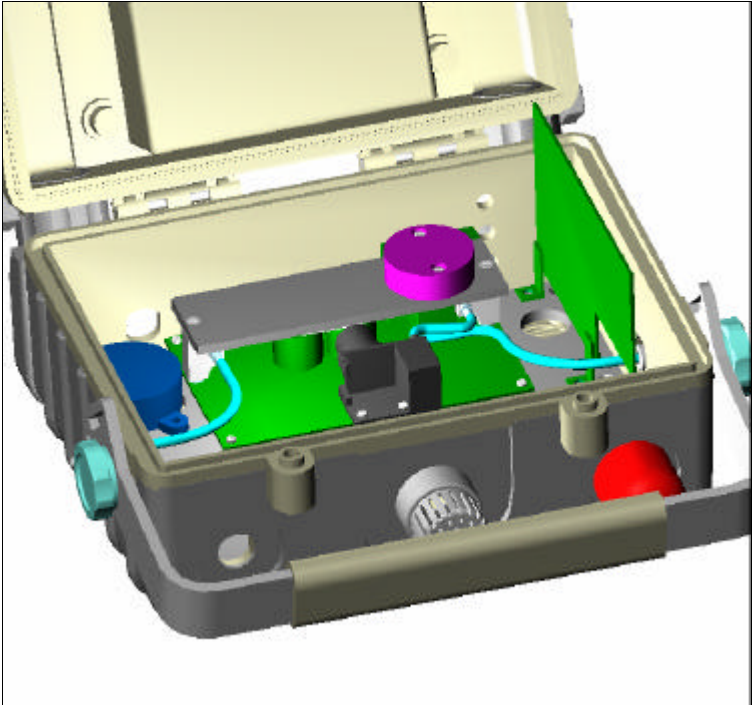

Figure 6-1 Internal Structure of IAQRAE
3. Refer to Figure 6-1, open the monitor housing by unscrewing the two captured hex screws from the top of the monitor case.
4. Refer to Figures 6-1 and 6-2, carefully unscrew the two No.2 screws that hold down the gas piping plate to the PCB and sensors. Remove the gas piping plate.
2. Refer to Figures 6-1 and 6-2. Remove the two hex screws holding the instrument housing together, then carefully unscrew four No. 2 screws that hold down the gas piping plate to the analog PCB and sensors. Remove the gas piping plate.